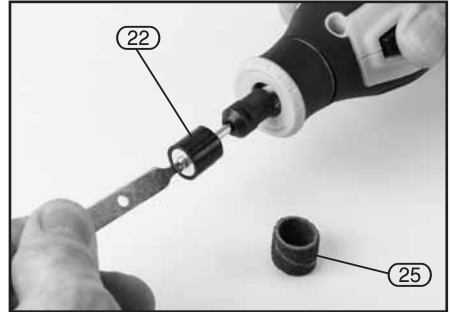

FIG.6
8.6 FITTING THE SANDING DRUMS - FIG. 6